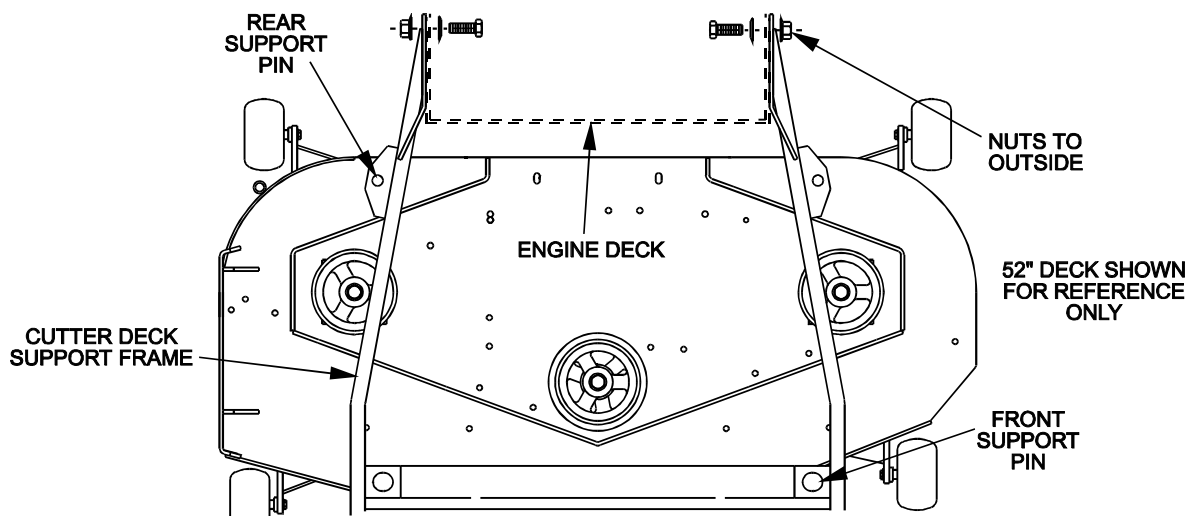

FIG. 2
- 3.5.2 Remove cutter deck support frame from cutter deck by removing the two hairpins and washers from the front deck support pins and by removing the two hairpins and washers from the rear deck support pins (See Figure 2).
Align and re-install the cutter deck support pins into the support frame. Install the two washers and hairpins onto the front support pins and the two hairpins and washers onto the rear support pins (See Figure 2).